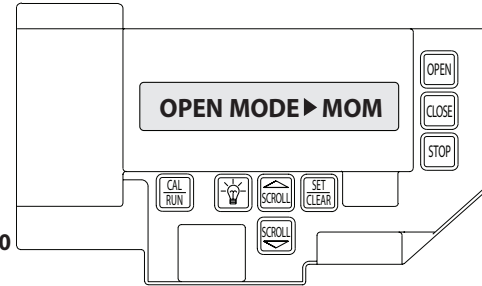

Figure 10
- 2) Press SCROLL  key until display reads "OPEN MODE>MOM" or "OPEN MODE>C-STP." **Figure 10.**
- 2) Press SCROLL  key until display reads "CLOSE MODE>MOM," "CLOSE MODE>C-STP" or "CLOSE MODE>C-REV." **Figure 10.**